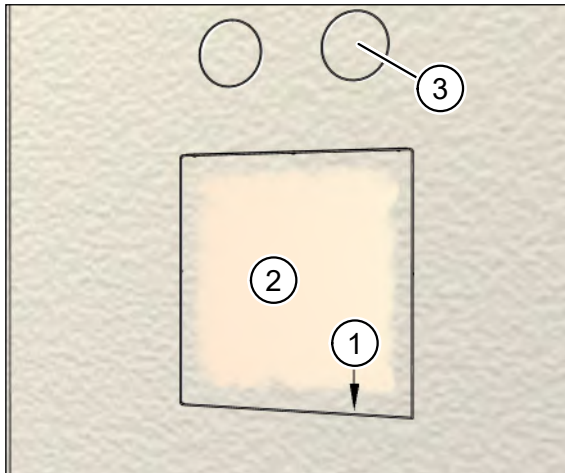

Fig. 66: Installation kit plastered on the inside
- ▶ Use a blade to score the plaster on the inside of the plastering trim (item 1 in Fig. 66).
- ▶ Carefully remove the plaster cover (item 2 Fig. 66) and the protective cover lying underneath.
- ▶ Use a blade to score the plaster on the inside of the supply air and extract air openings (item 3 in Fig. 66) and remove the adhesive tape with the plaster.